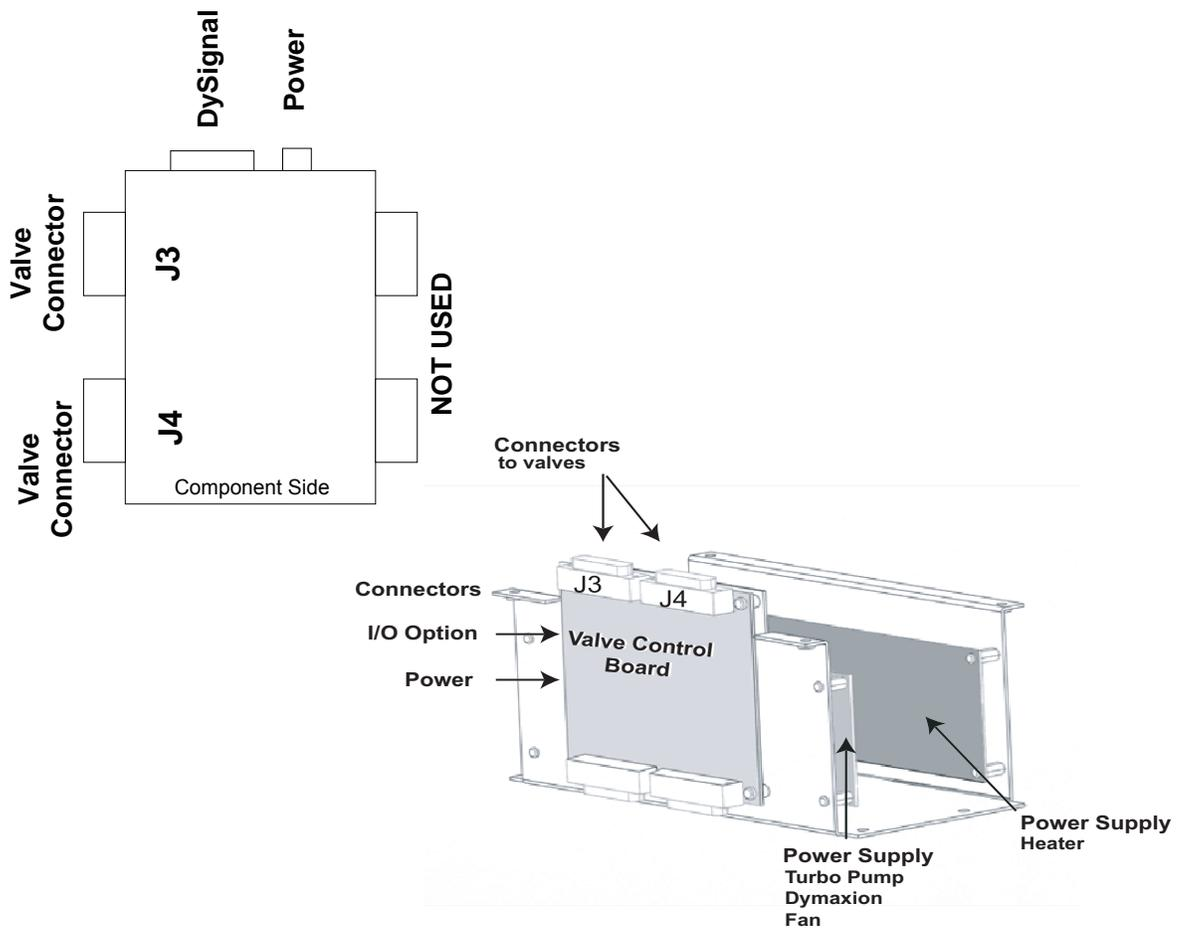

Figure 6-2.
3. There are three (optionally four) connectors on the valve control board that must be removed. If your analyzer uses the 8-valve system, there is one valve control connector (J4) on the top of the board and two connectors (I/O Option and power) on the side of the board closest to the front of the unit. If you have a 16-valve unit, there will be two valve control connectors (J4 and J3) on the top. See Figure 6-2.